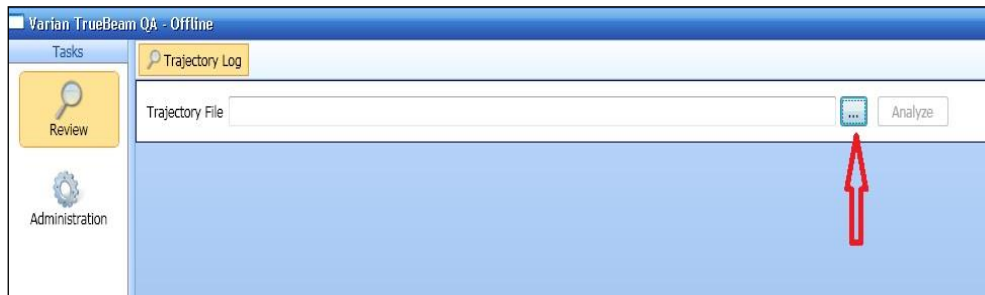

Figure 59: Offline QA Review Screen
4. Click on the “browse” icon. See Figure 59.